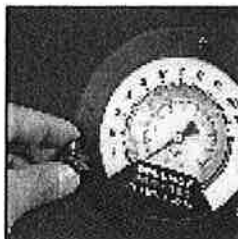

Figure 9
1. Remove the three black wing knobs which hold the front gauge flange in place (see Fig. 9).
4. While holding the overlay behind the flange (see Fig. 10.) insert the flange onto the knob studs, repositioning the overlay as needed, and secure knobs finger tight (see Fig. 9).